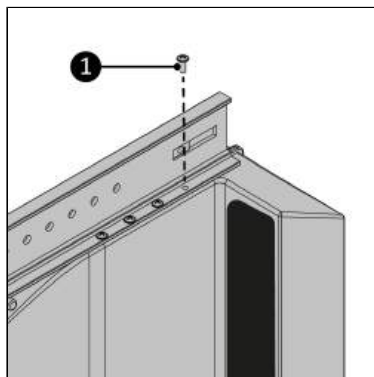

Figure 70.
- Screw the main rail to the Way-out using the eight 3,5 x 12 mm screws (Figure 70, pos. 1). Make sure all screw holes match up.